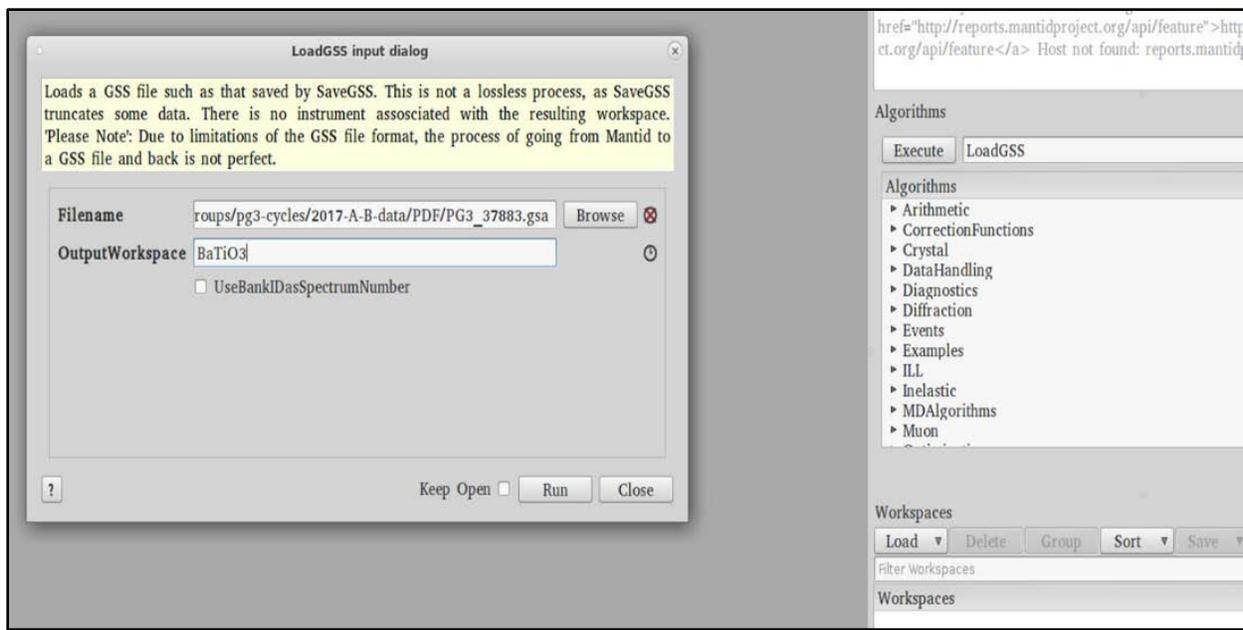

Figure 6. Main MantidPlot window, showing the Algorithms box on the right and the LoadGSS dialog box.
You may also use MantidPlot to reduce data from Powgen into a format appropriate for pair distribution function (PDF) analysis. This procedure will use the Algorithms box in MantidPlot (Figure 6). Algorithms are small bits of code that typically take a few inputs and execute a single step. They are run by typing the algorithm name in the box and hitting the Execute button.
1. Execute the “LoadGSS” algorithm (Figure 6) in MantidPlot by typing the name in the algorithm box and hitting the Execute button. In the pop-up box, use the Browse button to navigate to the autoreduce folder for your proposal and select the desired autoreduced *.gsa data set. Give the dataset an appropriate name in the OutputWorkspace box and hit the Run button.